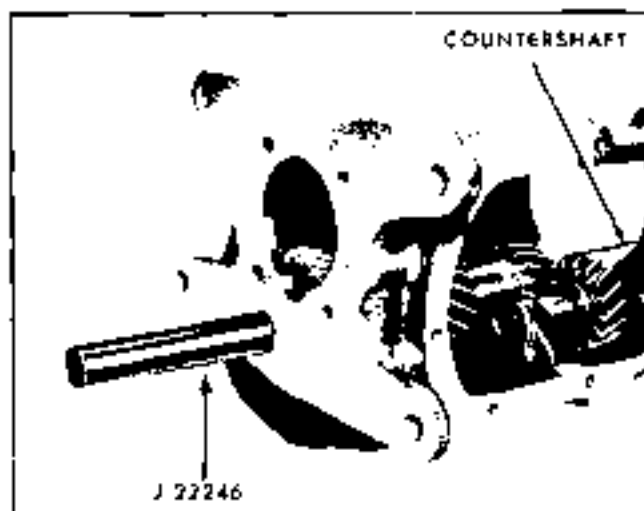

Fig. 7B-14 Removing or Installing Countergear
NOTE: The anti-rattle plate is riveted to the countergear in three (3) places. Disassembly is not recommended (Fig. 7B-21).